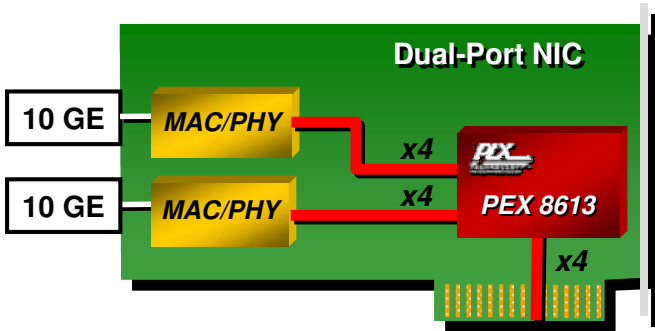

Figure 4. 10GE NIC Fan-Out
The PEX 8613 can also be utilized in communications applications such as Network Interface Cards (NICs). NICs, like the one shown in Figure 4, can utilize the PEX 8613 for its fan-out capabilities. In the example below, the PEX 8613 is being used on a Dual-port 10-Gigabit Ethernet (GE) NIC card. The PEX 8613 utilizes a x4 link to connect to the host and two x4 downstream links to fan-out to the 10GE ports. The peer-to-peer communication feature of the PEX 8613 allows the endpoints to communicate with each other without any intervention or management by the host.